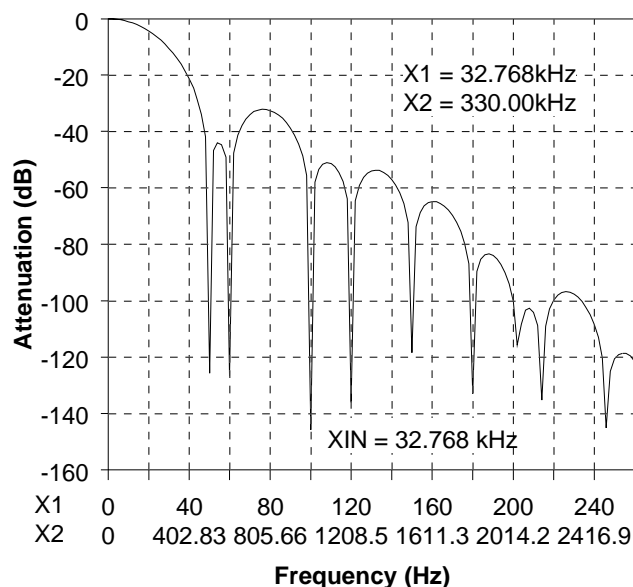

Figure 5. Filter Magnitude Plot to 260 Hz
32.768 kHz. Figures 5, 6 and 7 illustrate the magnitude and phase characteristics of the filter. Figure 5 illustrates the filter attenuation from dc to 260 Hz. At exactly 50, 60, 100, and 120 Hz the filter provides over 120 dB of rejection. Table 3 indicates the filter attenuation for each of the potential line interference frequencies when the converter is operating with a 32.768 kHz clock. The converter yields excellent attenuation